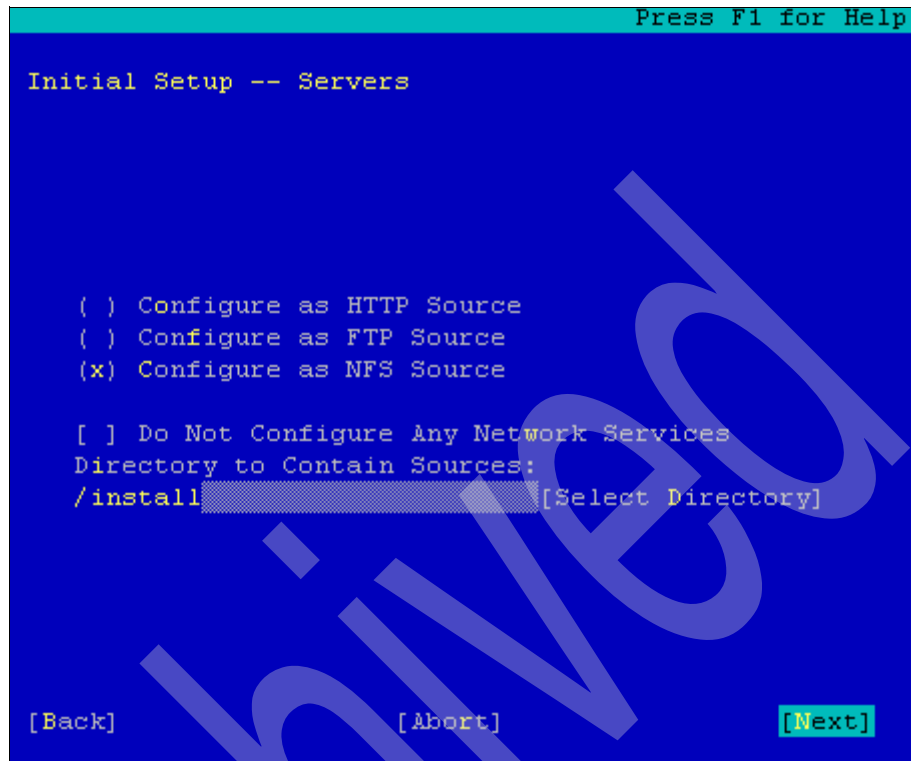

Figure D-2 Initial setup of SLES NFS installation server
3. Select **Configure as NFS Source** and enter the desired location source location directory. This example uses /install as shown in Figure D-2 on page 456.